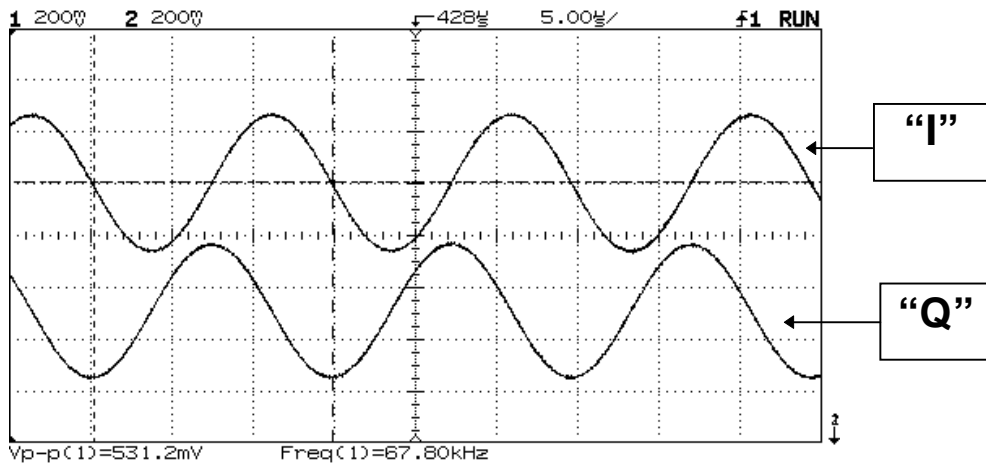

Fig. 4.12 TXP @ GSM @ Pwr Lvl 10 Pg. 1-15D TP421
10. **TIPI,TINI,TQPI,TQNI** (TX I and Q signals which are modulated onto an IF of 180/270 Mhz by the W2013 - IC100). See figure 4.12.